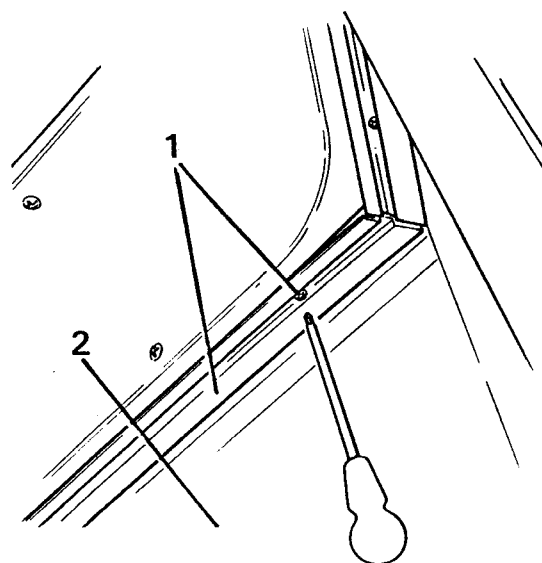

Figure 13
1. Remove the screws from the upper glass frame trim. See figure 13.